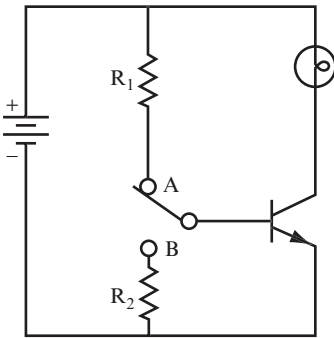

FIGURE 4.8
- 14** Figure 4.8 shows a circuit using both R_1 and R_2 . Note that the circuit includes a two-position switch that you can use to turn the transistor ON or OFF.
- A.** As shown in Figure 4.8, is the transistor ON or OFF? _____